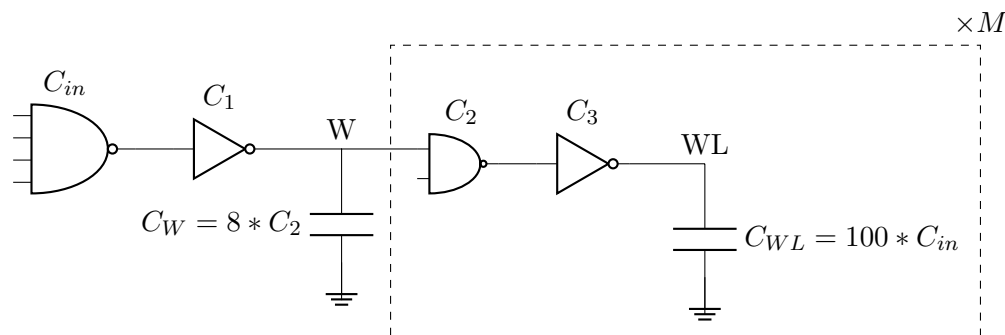
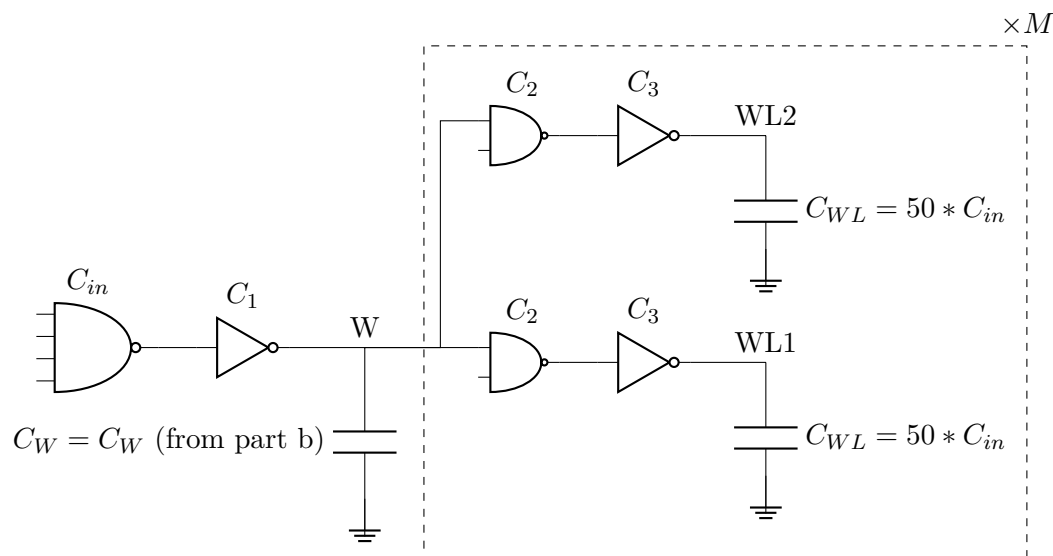

Figure 12: Row decoder model
Figure 13: Split final decoder model
- The decoding scheme consists of 4-bit predecoders and final row decoders. The circuit model for each predecoder is shown below (Fig. 12).
- i) the total number of final decoders each predecoder drives (i.e. the factor M in Fig. 12)
- c) **(251A only)** Now let's split the SRAM words into two halves and place the decode circuitry down the middle. The final decoder is split into two, each driving half of the word line. This new array decoding configuration is modeled in Fig. 13 and supposedly has a lower minimum decoding delay compared to Fig. 12, especially for SRAMs with large word sizes. Pay special attention to C_W – recall that it models a wire that spans the entire array height, which is unchanged from part b).
Your classmate analyzed this new circuit using the Path Delay method and found that its minimum delay is exactly the same as that of the circuit in Fig. 12. The only difference they found for minimum delay is that C_2 and C_3 are halved. Concisely explain why your classmate could not support the claim of lower delay and identify what was omitted (*hint*: should they analyze this differently?).